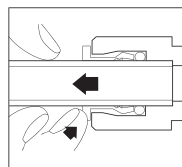

Fig.3
- ▶ To remove, push in collet and pull out tubing (Fig. 3).